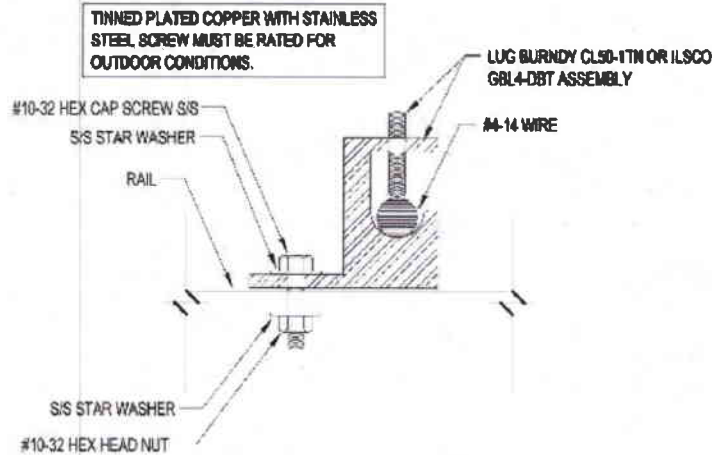

Figure 3 – Basic UL Grounding Structure
- Insert STS Bolt #10-32 into the frame grounding hole with associated hardware as shown in Figure.3; or